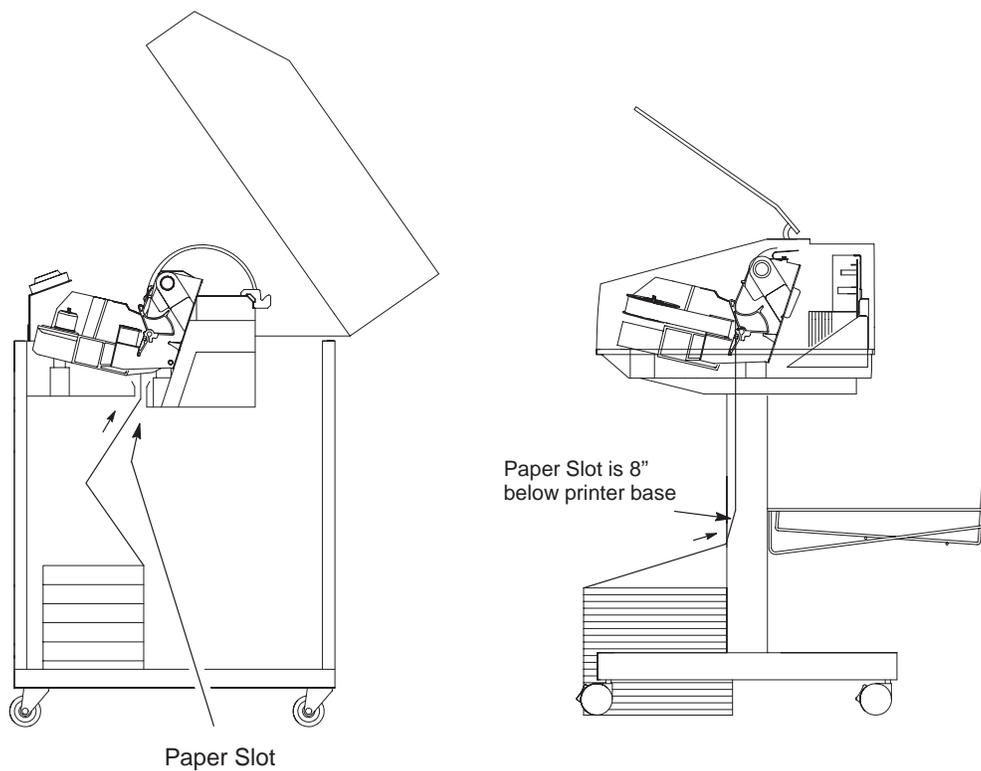

Figure 2–26. Feeding the Paper
5. Feed the paper up through the paper slot. On pedestal models, be sure the paper feeds between the two wire guides. Hold the paper in place with one hand (to prevent it from slipping down through the paper slot) while pulling it through from above with your other hand. (See Figure 2–26.)